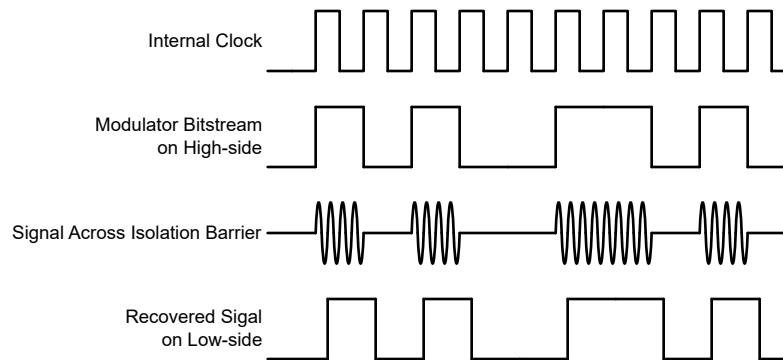

Figure 7-1. OOK-Based Modulation Scheme
As shown in Figure 7-1, the AMC0381D-Q1 uses an on-off keying (OOK) modulation scheme to transmit the modulator output bitstream across the SiO₂-based isolation barrier. The transmit driver (TX) is illustrated in the Functional Block Diagram. TX transmits an internally generated, high-frequency carrier across the isolation barrier to represent a digital one. However, TX does not send a signal to represent a digital zero. The nominal frequency of the carrier used inside the AMC0381D-Q1 is 480MHz.